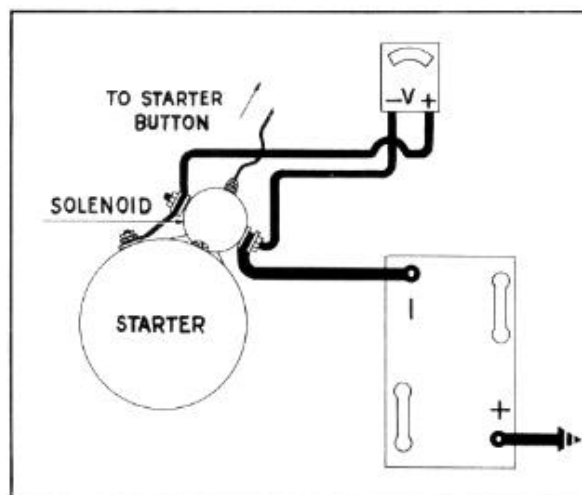

FIGURE 6
1. Connect negative lead to "BAT" terminal of starter solenoid switch and positive lead to starting motor terminal of starter solenoid switch, Figure 6.